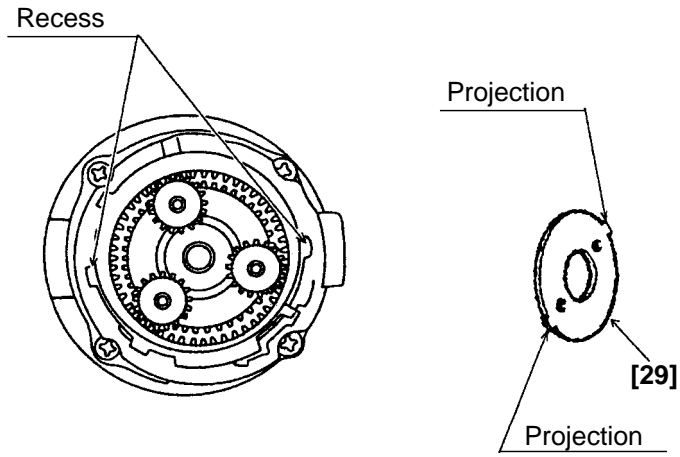

Fig. 11
- (ii) Install Washer (B) [29] in the Rear Case [20] with the projections of Washer (B) [29] engaged with the recesses in the Rear Case [20], and turn Washer (B) [29] clockwise until it can turn no further. (See Fig. 11.)